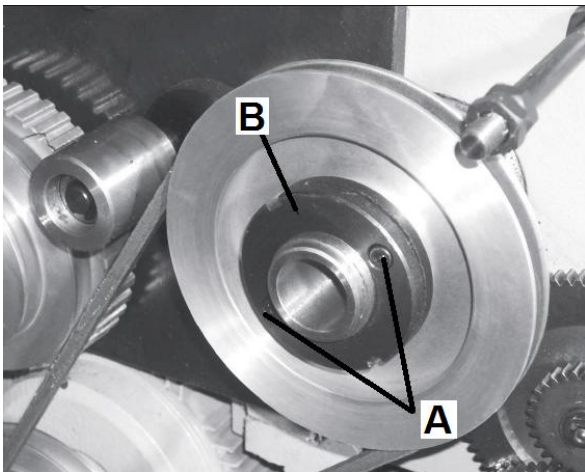

Figure 11-2: Bearing adjustment
Loosen two hex socket cap screws (A, Fig 11-2). Tighten nut (B) until end play is taken up.